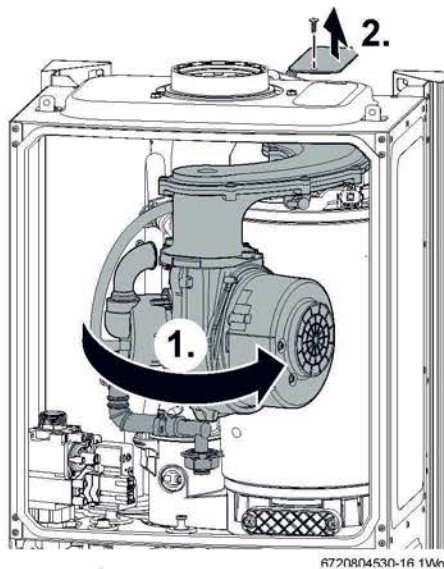
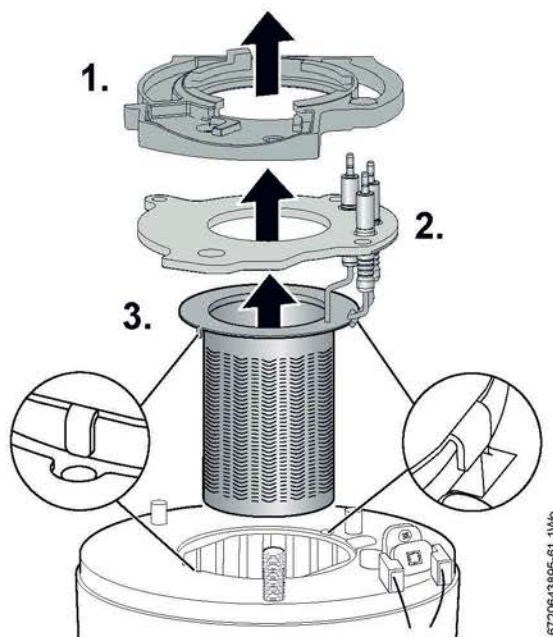
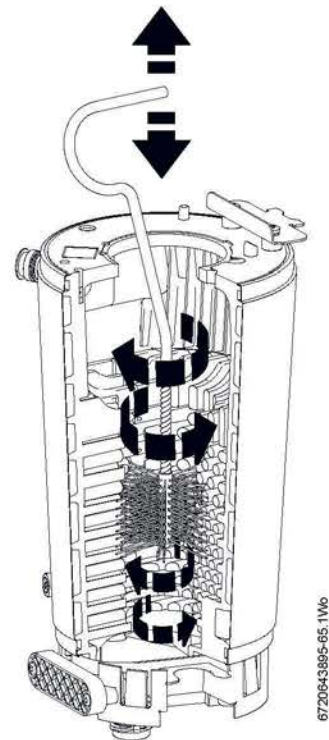

Fig. 64 Rotate air/gas manifold
Fig. 65 Burner removal
Fig. 68 Cleaning heat exchanger
1. Refer to figure 64 and rotate fan and air/gas manifold assembly around the top of the heat exchanger until it stops at the lug.
Refer to figure 65
- ▶ Refer to figure 68 and access the heat exchanger flue ways by inserting the cleaning brush (7 716 192 312) through the top access hole in the casing, removal of panel shown in figure 64.
- ▶ Re-assemble ensuring that the lower baffle (2) and the top baffle (1) are refitted correctly.
- ▶ Refer to figure 65 when re-fitting the burner to ensure that it fits centrally within the heat exchanger and location tabs are situated in location holes.